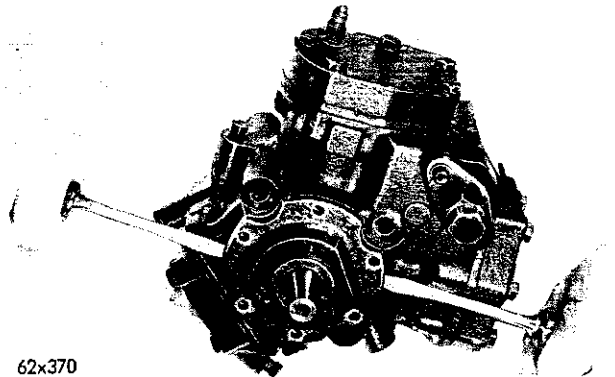

Fig. 43—Removing the Crankshaft Bearing Housing
(1) Remove the crankshaft housing seal bolts.
(2) Remove the bearing housing from the case, using two screwdrivers inserted in the slots provided to pry the housing from the case. (See Fig. 43).
(3) Remove the crankshaft bearing housing seal face plate from the bearing housing. This is part of the gas seal replacement package and must be replaced when the gas seal assembly is replaced.
(4) Remove the gas seal from the crankshaft.